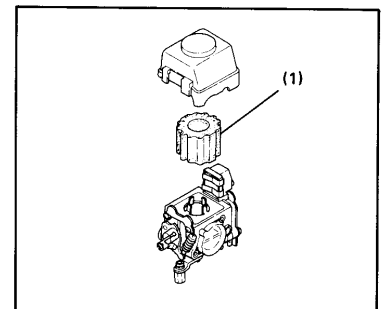

Fig. 16
1. Clean air cleaner element (1) with soap and water and dry before reuse. (Fig. 16)